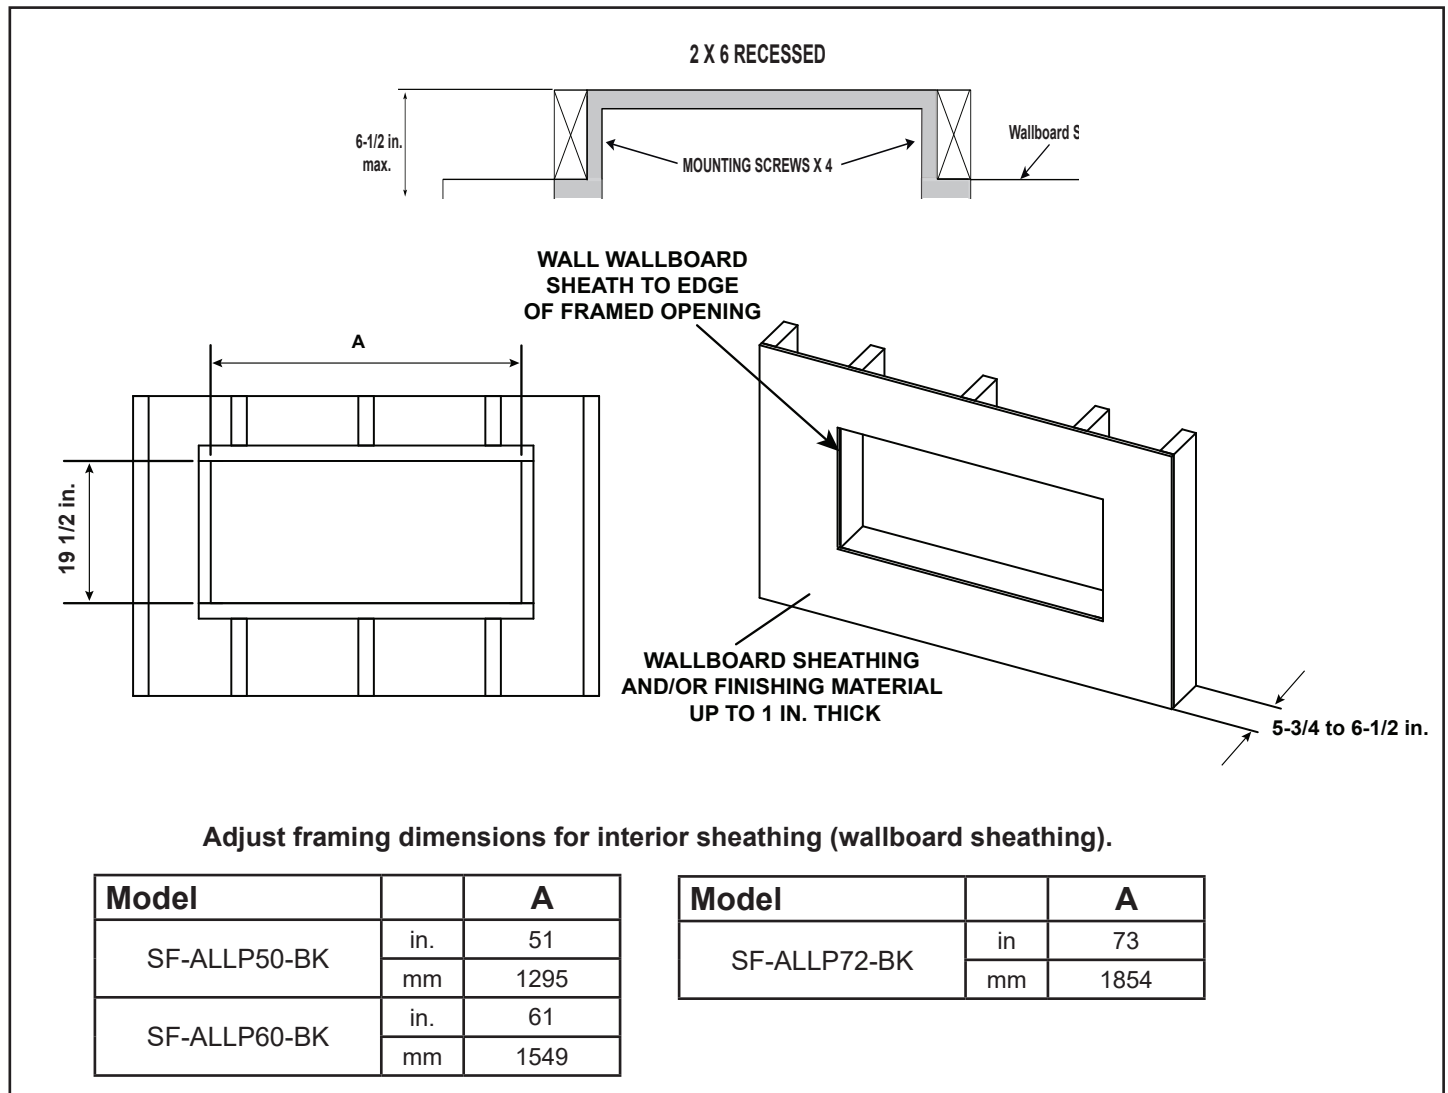

Figure 4.1 Framing and Wall Finishing for Recessed Installation
1. Finish wall construction per requirements in Figure 4.1.